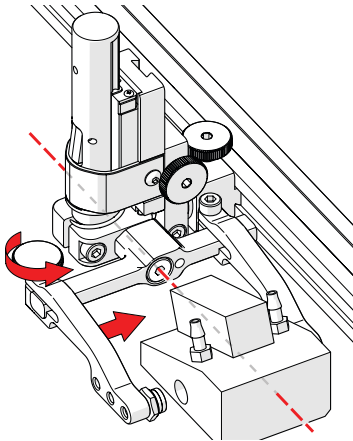

Fig. 108 - Adjust outer arm
5. Loosen the probe holder arm adjustment knob (Fig. 108) and slide the probe holder arm along the yoke pinching the wedge in place.